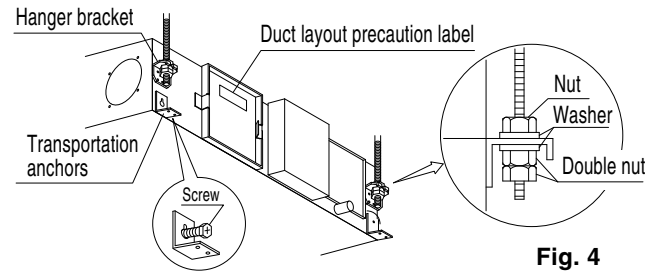

Fig. 4
- (1) Install the unit temporarily.
- Attach the hanger bracket to the suspension bolt. Be sure to fix it securely by using nuts (M10, M12) and washers (M10 with external dia. 30 to 34 mm, M12 with external dia. 36 to 38 mm) (locally procured) from the upper and lower sides of the hanger bracket. (Refer to Fig. 4)